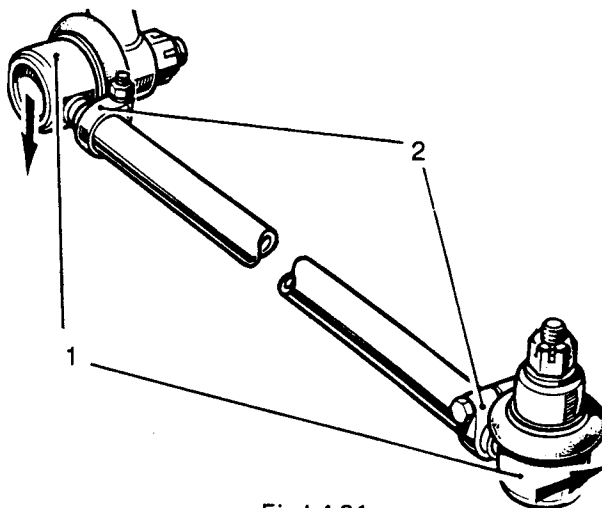

Fig L4.21
- (3) Refer to Fig L4.21. Using a mallet, lightly tap the ball joint cups (1) in the direction indicated to the maximum of their travel, to ensure full unrestricted movement of the longitudinal arm.
- (4) Tighten both ball joint clamps (2) to 11 to 15 N.m.
- (5) Check the steering lockstops setting (see Sub-section L3, Chapter 3).
- (6) Check the steering, lock to lock, for correct functioning. If necessary, adjust the overall length of the longitudinal arm by slackening the ball joint clamps and screwing the arm in or out, as required, then resecure the clamps.